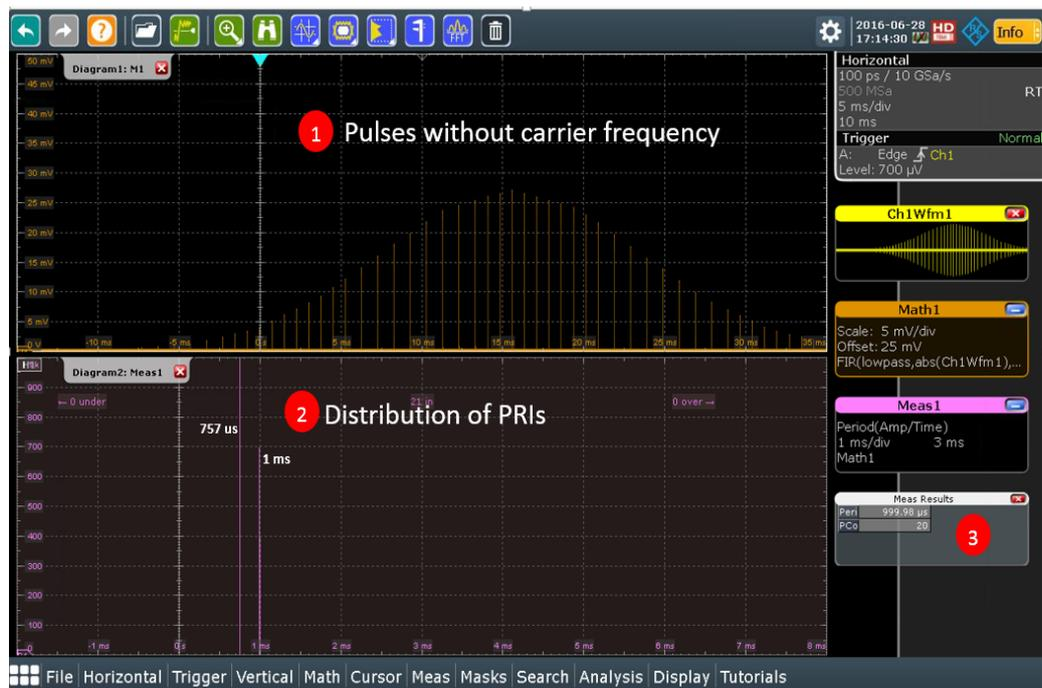

Figure 10: Distribution of PRIs
In Figure 10 you can see the two diagrams. The top diagram shows the RADAR signal without the carrier frequency. The lower diagram reveals the distribution of the pulse PRIs within the acquisition duration.
This section describes the steps to get a list view of the captured pulses within an acquisition. It relies on the setup seen from Figure 10. The outcome will be a table with the pulse width of each acquired pulse that can be exported into a *.csv file.
5. Select the Range to **[Longer]**, since Figure 10 reveals that the min PRI is 753 us, select the **[Width]** to 700 us.